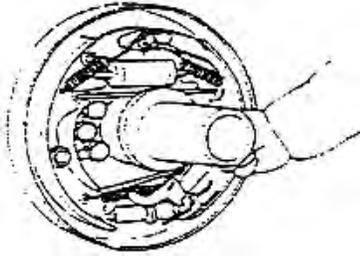

figure 2-28
(8) Fix guide of brake shoe on brace pin, then fix rebound spring of brake hoof. Install main shoe first, then sub-shoe. See figure 2-28
(9) Fit adjustor, spring, ejector pin, rebound spring. Please notice as follow: